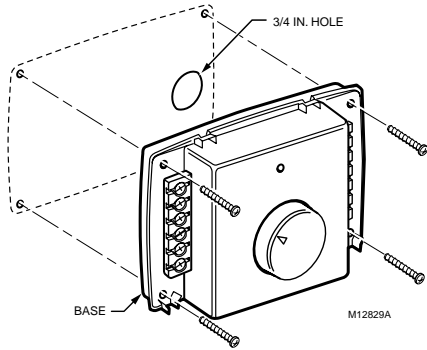

Fig. 3. Mount control on return air duct.
- Drill 3/4 in. (19 mm) circular opening for the projection on the back of the base. See Fig. 3. Place the device on the duct and mark the mounting holes, or screw in self-tapping screws.
- Mount the base on the duct using the four mounting screws provided. Tighten the screws until fully seated with no space between the base and the duct. See Fig. 3.